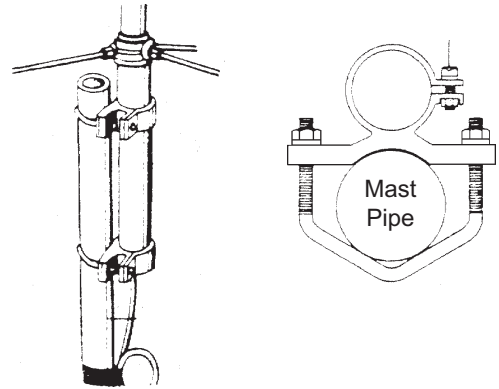

Figure 6
- (8) Attach antenna to antenna mast using brackets and hardware kit (figure 6). We suggest mounting one turn of coaxial cable of approximately 25cm diameter directly beneath the antenna. This will act as an isolation choke. The coil diameter is not critical—Note: Some cable require a larger diameter coil to prevent movement of center conductor. Tape coil to mast (Figure 6).